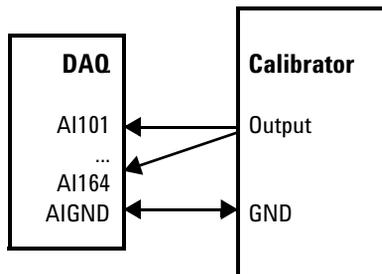

Figure 2-5 The analog input and calibrator connection
- 3 Connect the DAQ device to the PC with mini-B type USB cable. The connected DAQ device will be visible in the **Instrument I/O on this PC** panel as illustrated in Figure 2-5.
- 4 Select the DAQ device that you wish to send the SCPI commands to and then click the **Interactive IO** icon on the toolbar to launch the Agilent Interactive IO. See Figure 2-5.